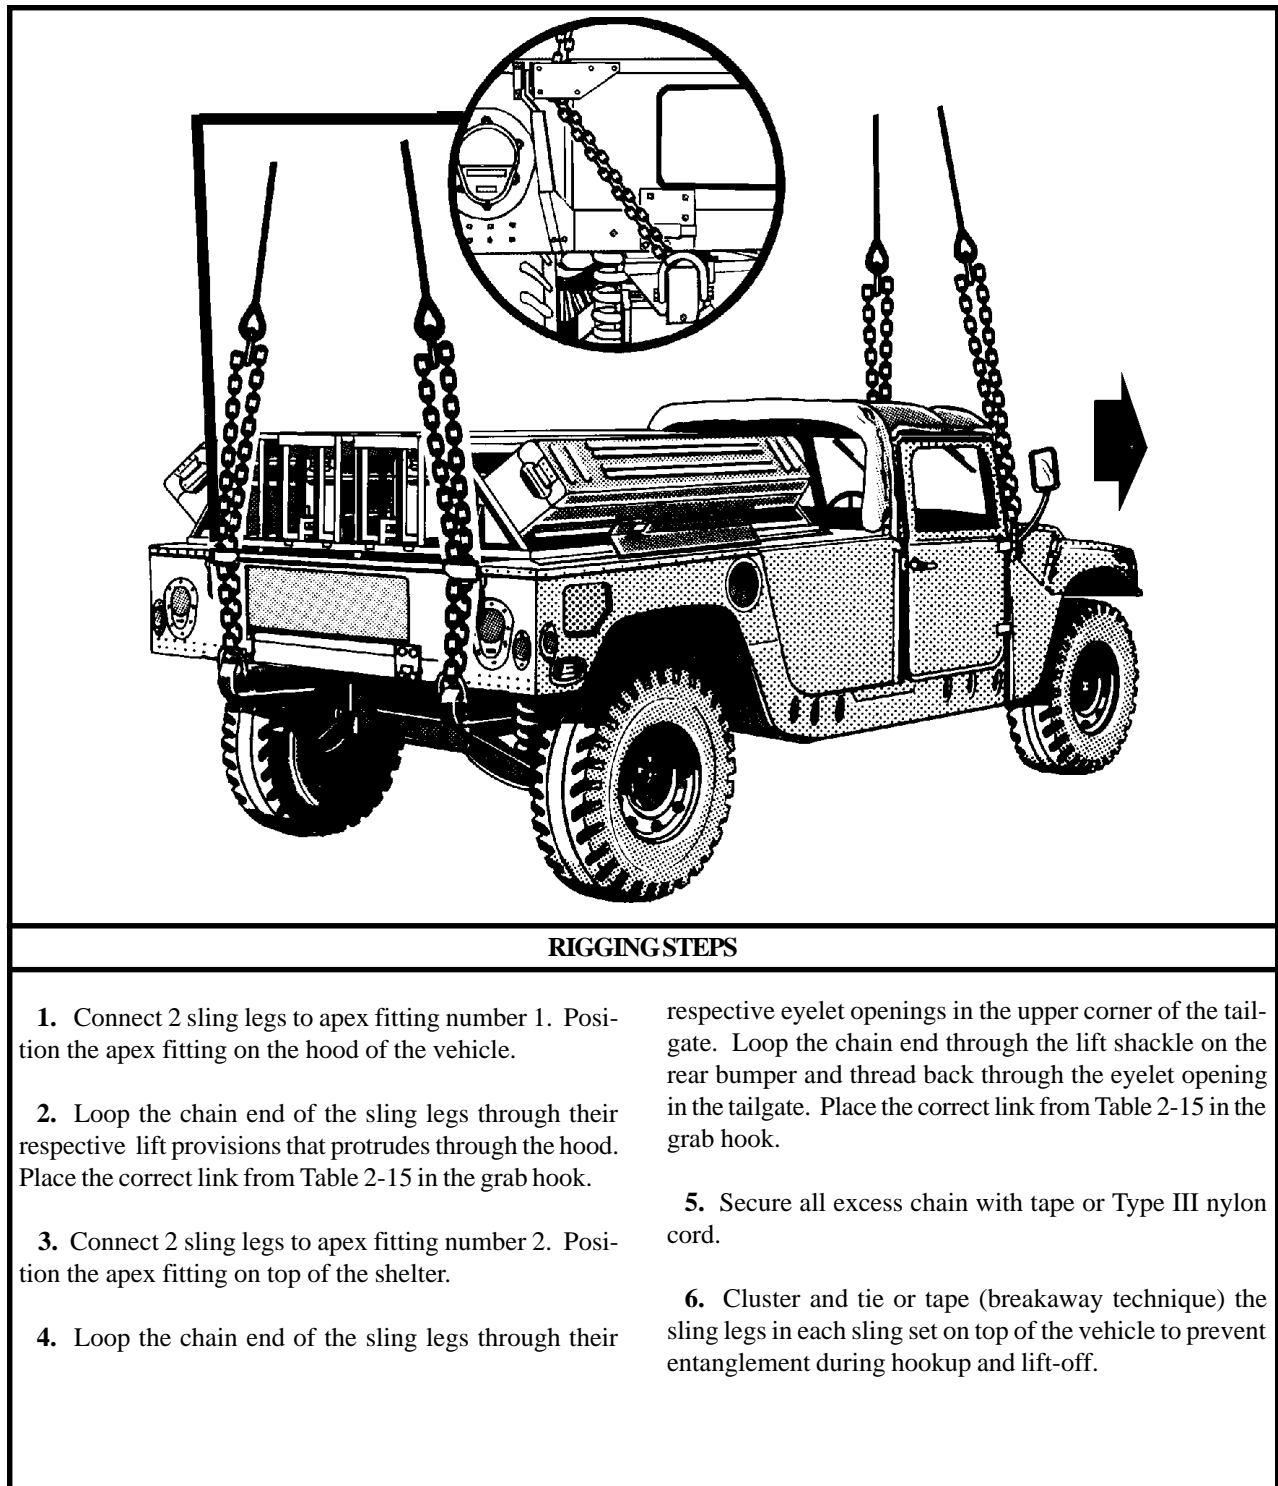

Figure 2-14. M998 HMMWV With Man Portable Air Defense Systems
(2) **Rigging.** Rig the load according to the steps in Figure 2-14.
(4) **Derigging.** Derigging is the reverse of the preparation and rigging procedures in steps d (1) and d (2).